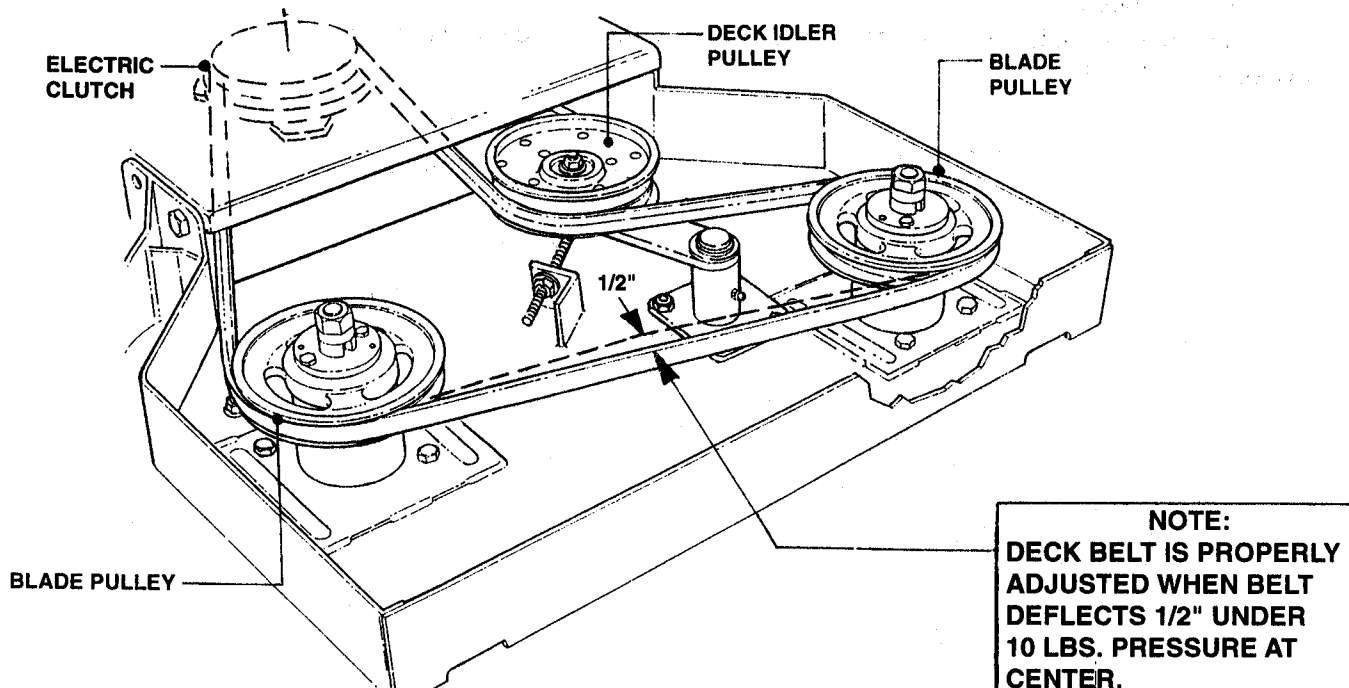

FIGURE 8
- D. Place belt around clutch and in pulley groove. Assure that the belt is seated properly in the blade pulley grooves. See Figure 8.